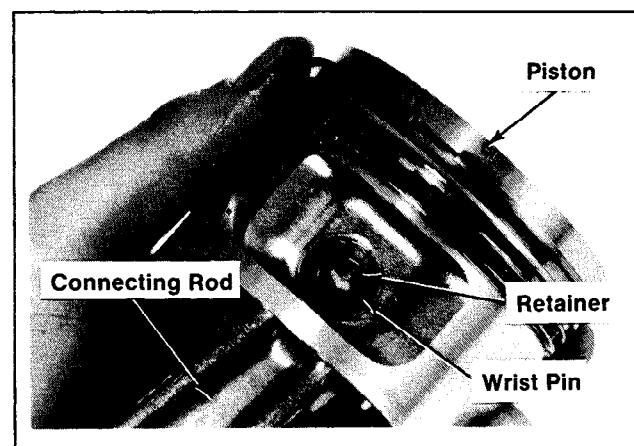

Figure 12-35. Installing Piston To Connecting Rod (Style "D" Piston Shown).
2. Install wrist pin and retainers. Refer to Figure 12-35.